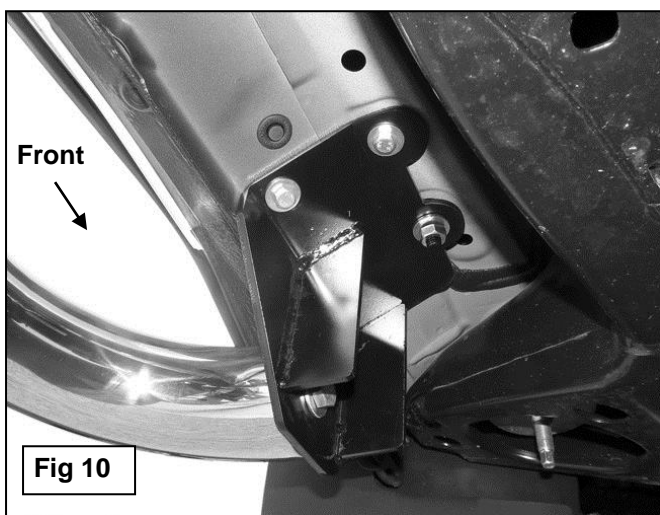

Fig 10
8. With assistance, carefully place the Driver/Left Sidebar onto the (3) cradle Brackets and up against the front Bracket. Attach the front of the Sidebar to the front Mounting Bracket with (1) 1/2" x 2" Hex Bolt, (1) 1/2" Lock Washer and (1) 1/2" Large Flat Washer, (**Figure 10**). Line up the threaded holes in the bottom of the Sidebar with the slots in the (3) Mounting Brackets. Attach the Sidebar to the Mounting Brackets with the included (6) 8mm Hex Bolts, (6) 8mm Lock Washers and (6) 8mm Flat Washers, (**Figure 11**). Do not tighten at this time.